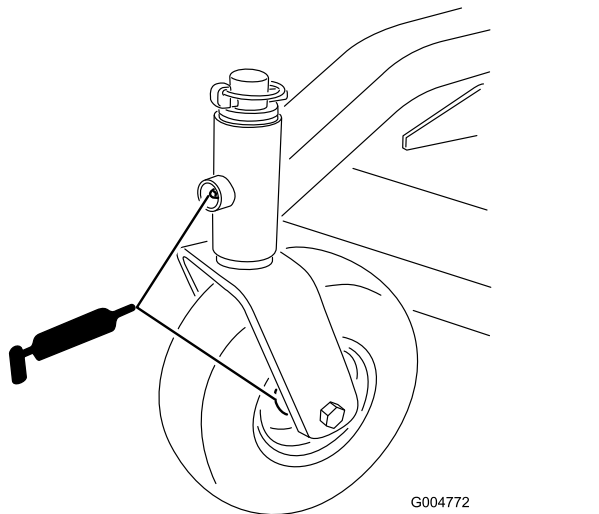

Figure 15
- Front castor spindle bushings (Figure 15)
- Front and rear castor wheel bearings (Figure 15)